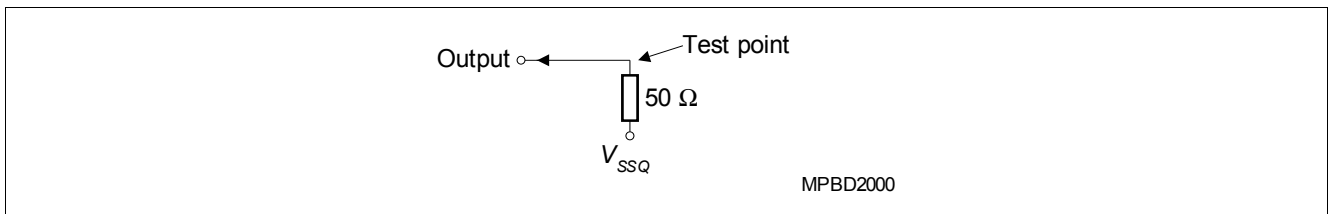

Figure 53 Pulldown slew rate test load
- 7) Pulldown slew rate is measured under the test conditions shown in Figure 53.